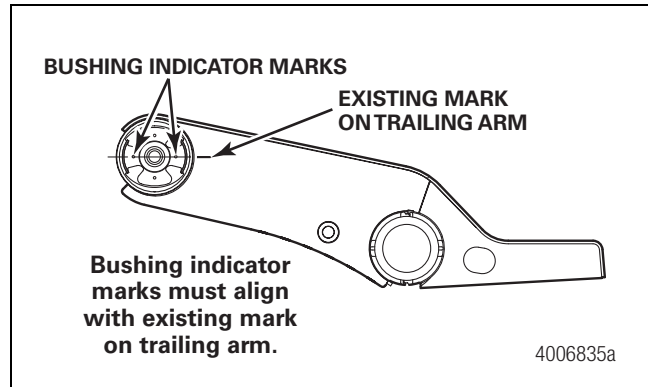

Figure 8
14. Verify that the bushing indicator mark is aligned with the existing mark on the trailing arm. Figure 8.